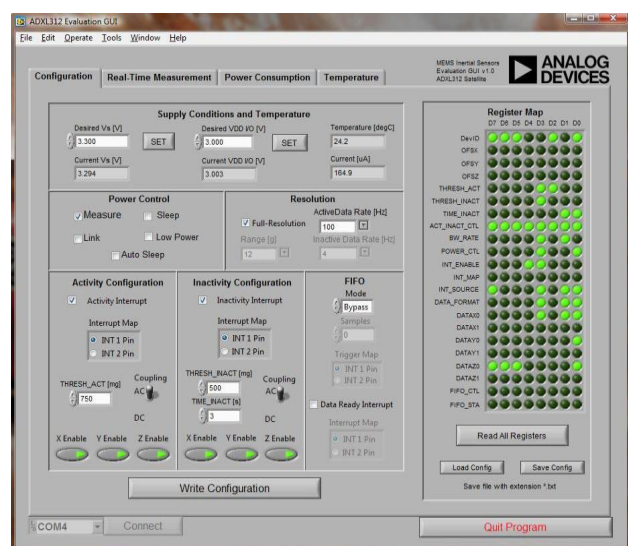

Figure 19. Configuration Panel with Sample Configuration
- The memory map contents are changed by interacting with the various front panel controls on the **Configuration** panel. The **Activity Configuration**, **Inactivity Configuration**, **FIFO Mode**, **Resolution**, and more can all be adjusted with these controls. When the desired configuration is achieved, press the **Write Configuration** button to transfer these settings to the ADXL312 memory map. The memory map then refreshes to show the contents that were just written. See Figure 19 for an image of the **Configuration** panel once the **Write Configuration** button has been pressed. Note that the configuration settings from this panel are preloaded (as needed) into the rest of the GUI.